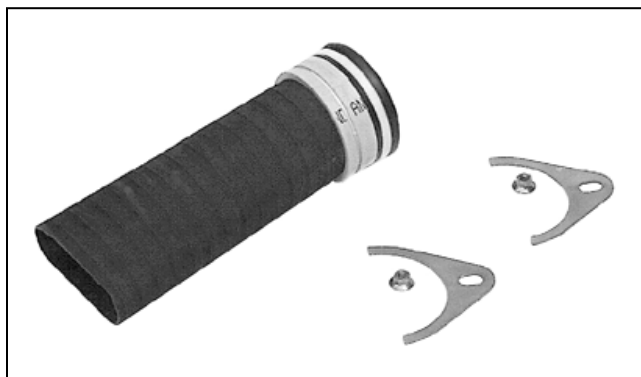

Figure 59. The conduit/tubing bracket assembly kit, shipped with gear.
- Locate the conduit/tubing assembly and the two holding brackets and bolts as shown in Figure 59.